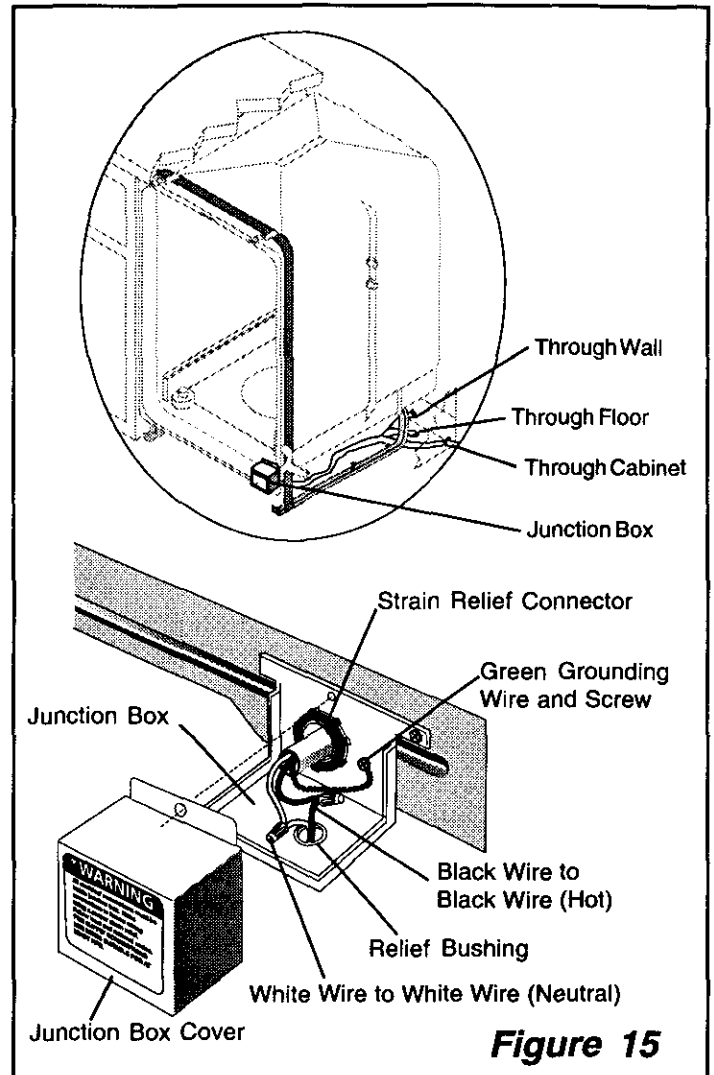

Figure 15
1. Remove the junction box cover (see Figure 15).